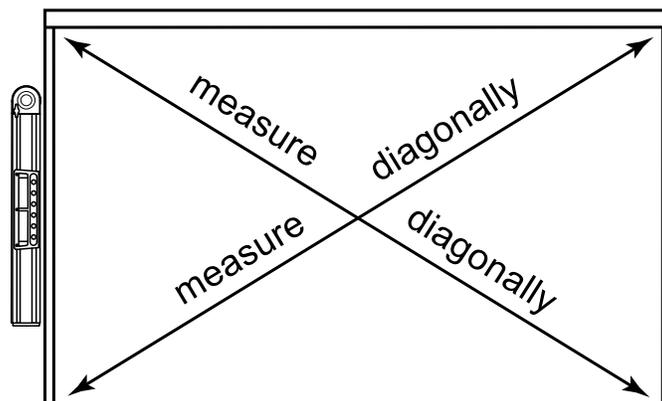

FIG. 14
3. Place the assembled frame in the opening, plumb and true. Measure installed frame diagonally to ensure it is square. (FIG. 14)